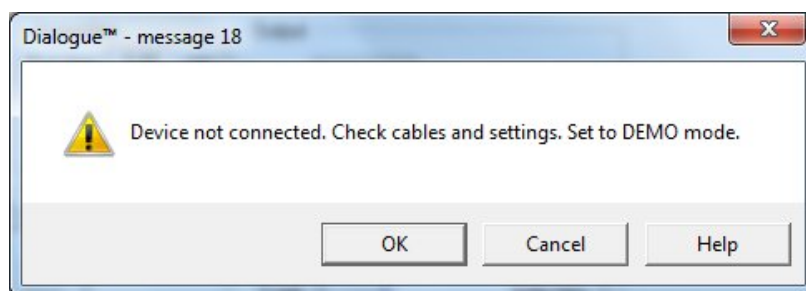

Fig. 1. Screen message if ROXY Potentiostat is not connected.
4. Because no detector is present, Dialogue software will continue running in 'demo' mode (Fig. 1).